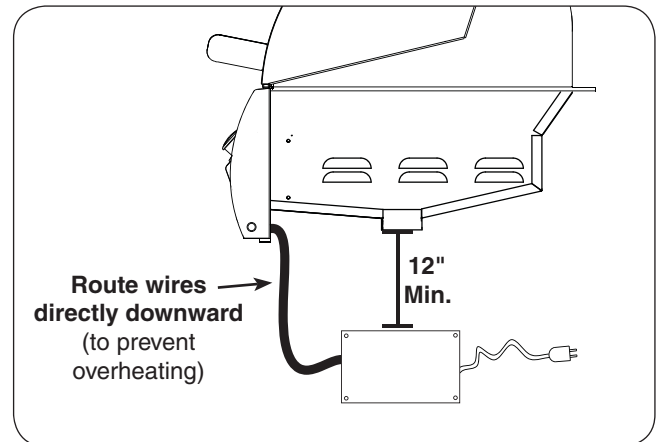

Fig. 21-3 Power supply clearance
- It **MUST** be located at least 12 inches below the bottom of the grill (see Fig. 21-3).
- The wire extension that exits from the control panel **MUST** be routed directly downward. This will prevent overheating. **DO NOT** route the wire extension below the grill (see Fig. 21-3).